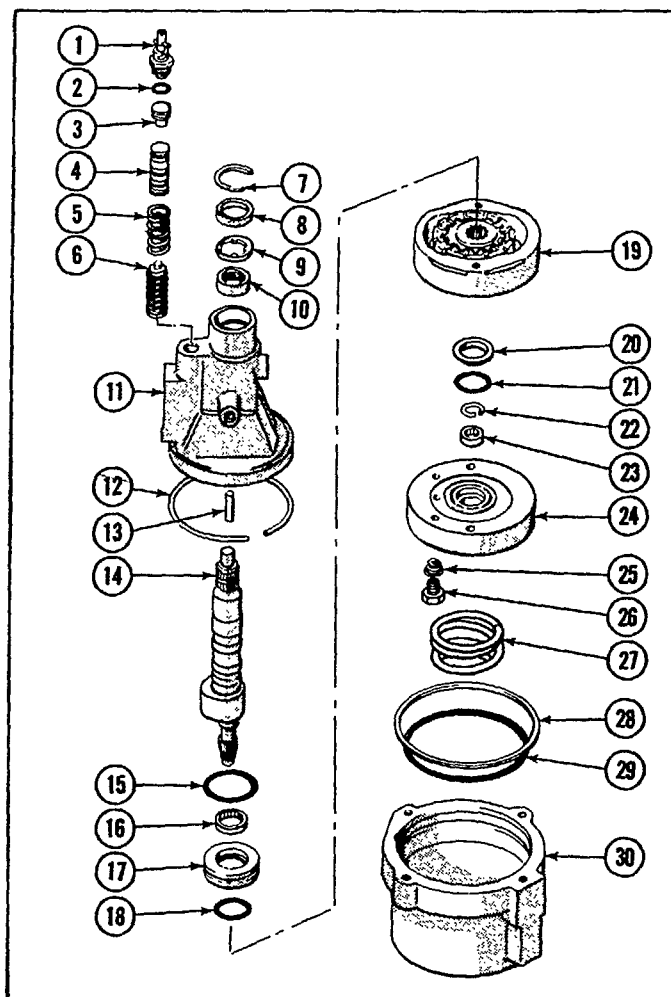

Figure 87
Refer to the exploded view illustration, Figure 87, as aid during the disassembly of the steering motor.
KEY TO FIGURE 87
16. Remove the adjustor assembly from the valve body housing. See Figure 87.
Refer to the exploded view illustration, Figure 87, as an aid during the assembly of the steering motor. During assembly it is important that all new seals and backup rings be installed.
1. Install the reaction spool guide and spring assembly, Figure 87, into the housing bore. Then install the guide spring and the valve spool, hollow end first, into the bore.